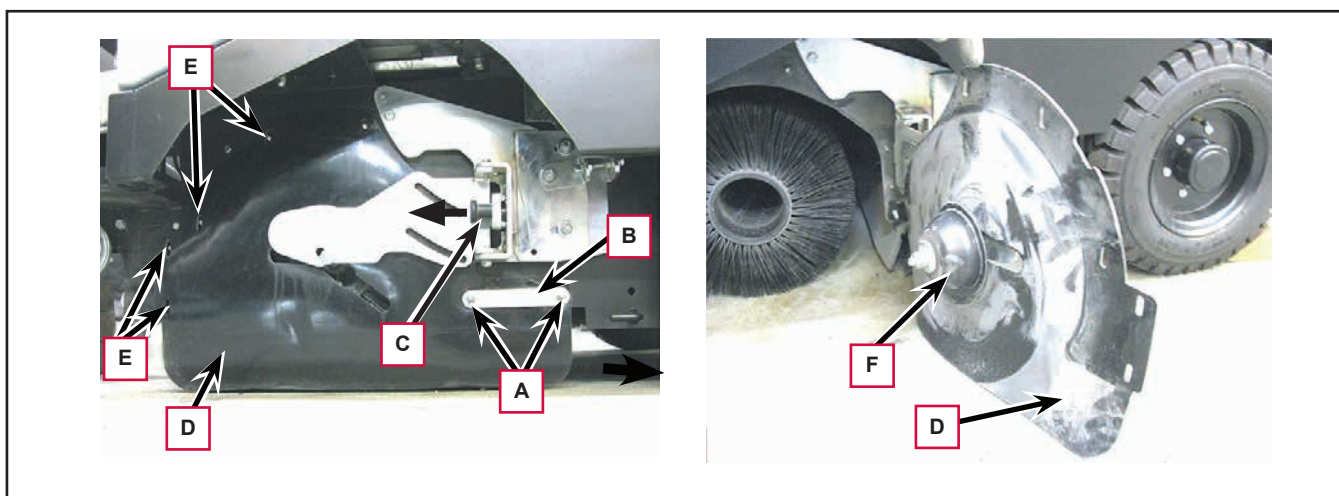

Figure 12
5. Unscrew the nuts (A, Figure 12) and remove the strap (B).
6. Pull and release the knob (C).
7. Open the skirt (D), freeing it from the pins (E).
8. Remove the skirt (D), freeing it from the hub (F).
9. Install the skirt (D) and the other removed components in the reverse order of removal, and note the following: